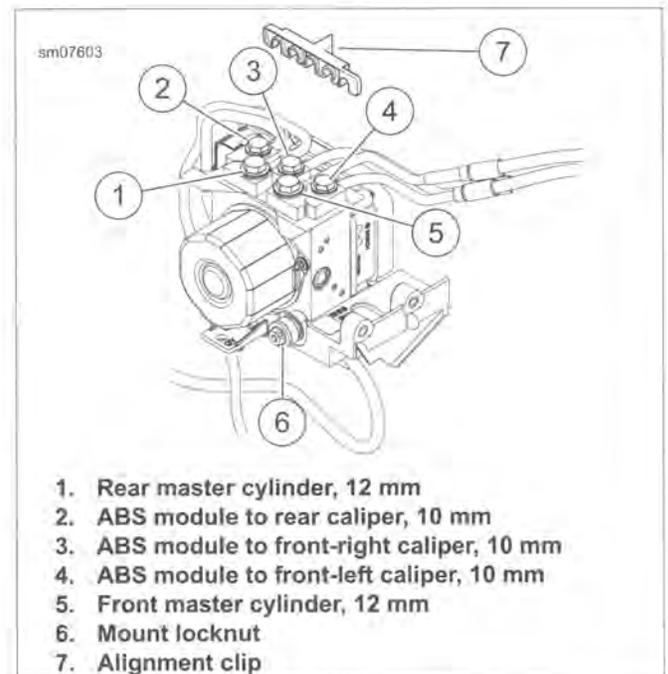

Figure 2-56. ABS Module Connections
11. See Figure 2-56. Remove alignment clip (7) from lines at ABS module.
5. See Figure 2-56. Install alignment clip (7) onto lines at ABS module.
13. See Figure 2-56. Loosen banjo bolt (3 or 4).
14. Remove alignment clip (7) from lines at ABS module.
- See Figure 2-56. Install alignment clip (7) onto lines at ABS module.